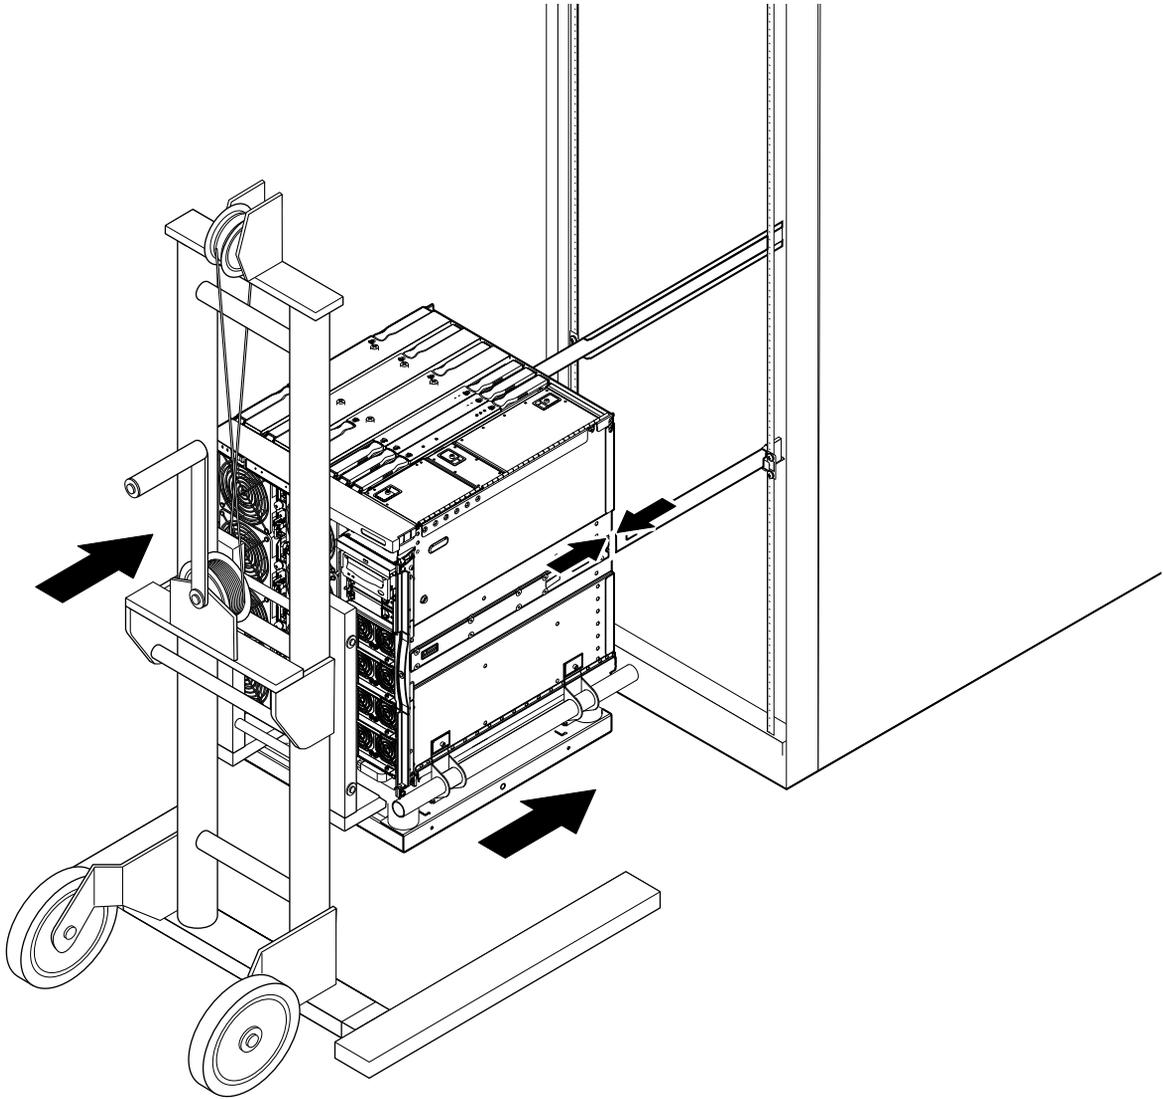

FIGURE 5-11 Aligning the System with the Rackmount Slides
Refer to FIGURE 5-11.
5. Move the system forwards carefully with the lifting device until the glides are fully engaged in the slides (FIGURE 5-11).